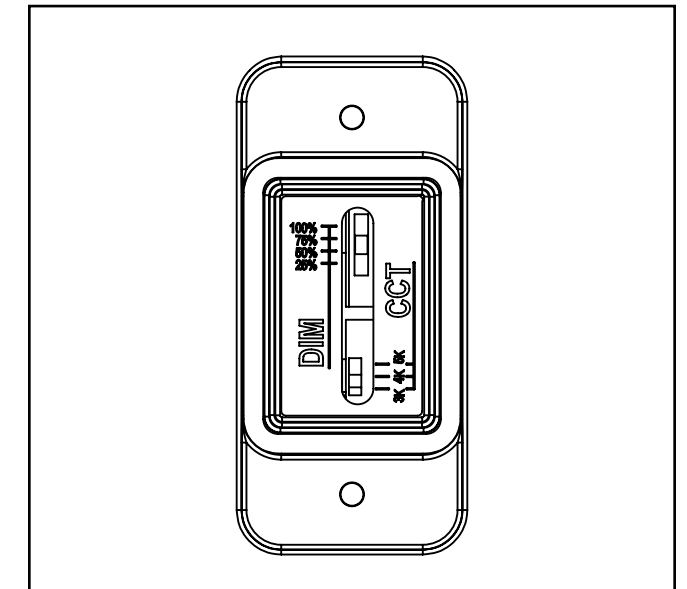

Figure 4.
Adjusting color and power (Figure 4.)
2. Select the desired color temperature (3000K, 4000K, or 5000K) by sliding the switch lever. (Figure 4)
3. Select the desired lumen level (100/75/50/25%) by sliding the switch lever. (Figure 4)